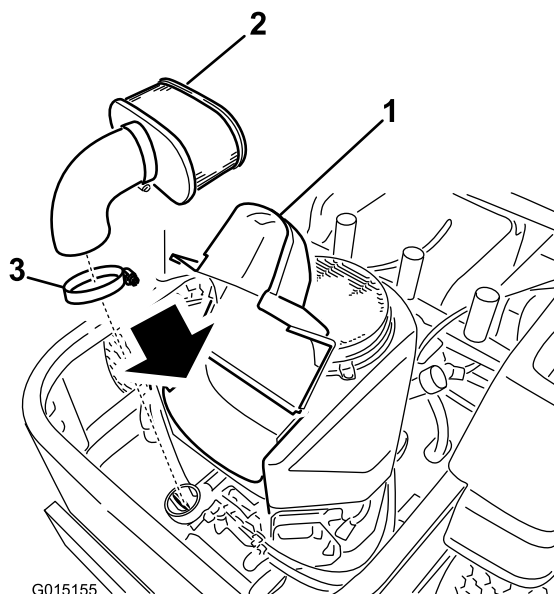

Figure 42
3. Clean around the air-cleaner cover to prevent dirt from getting into the engine and causing damage and lift the cover and remove the hose clamp securing the air cleaner assembly to the engine (Figure 42).
4. Loosen the hose clamp and remove the paper element (Figure 42).